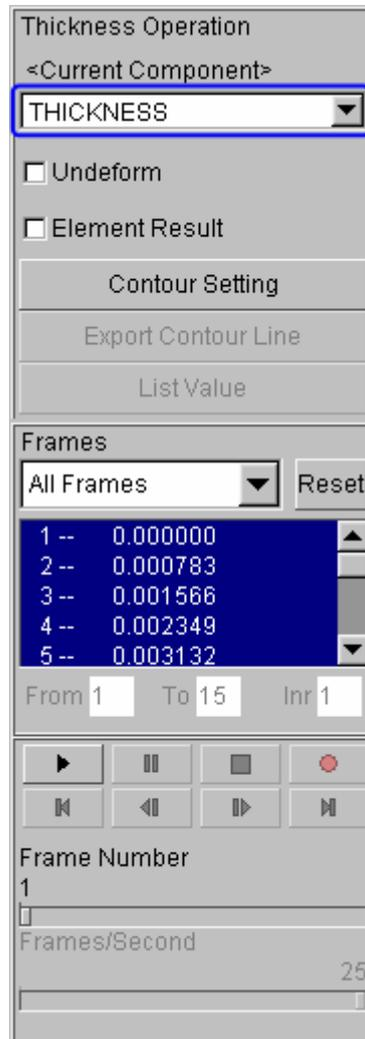

Figure 3.52 Thickness/Thinning contour
- Select **Current Component** from combo box, either **THICKNESS** or **THINNING**. The thickness contour of hydro formed tube is illustrated in Figure 3.52.